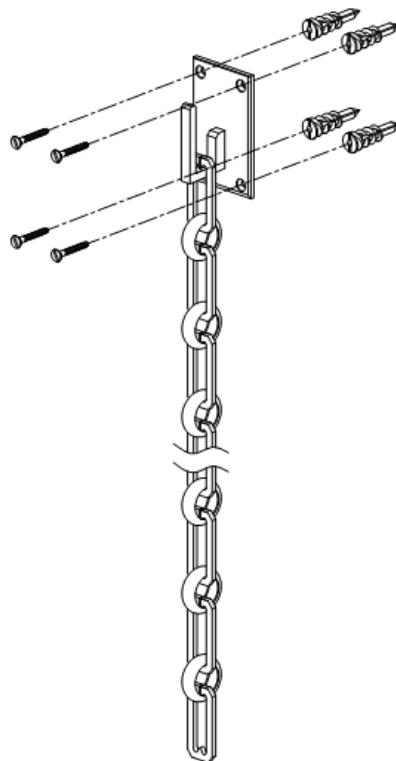

Fig 1
3. Place the enclosed anchor onto the wall, with the hole on the anchor lining up with the pre-drilled screw holes created in step 2. screw into the anchor until tight. See Fig 1.